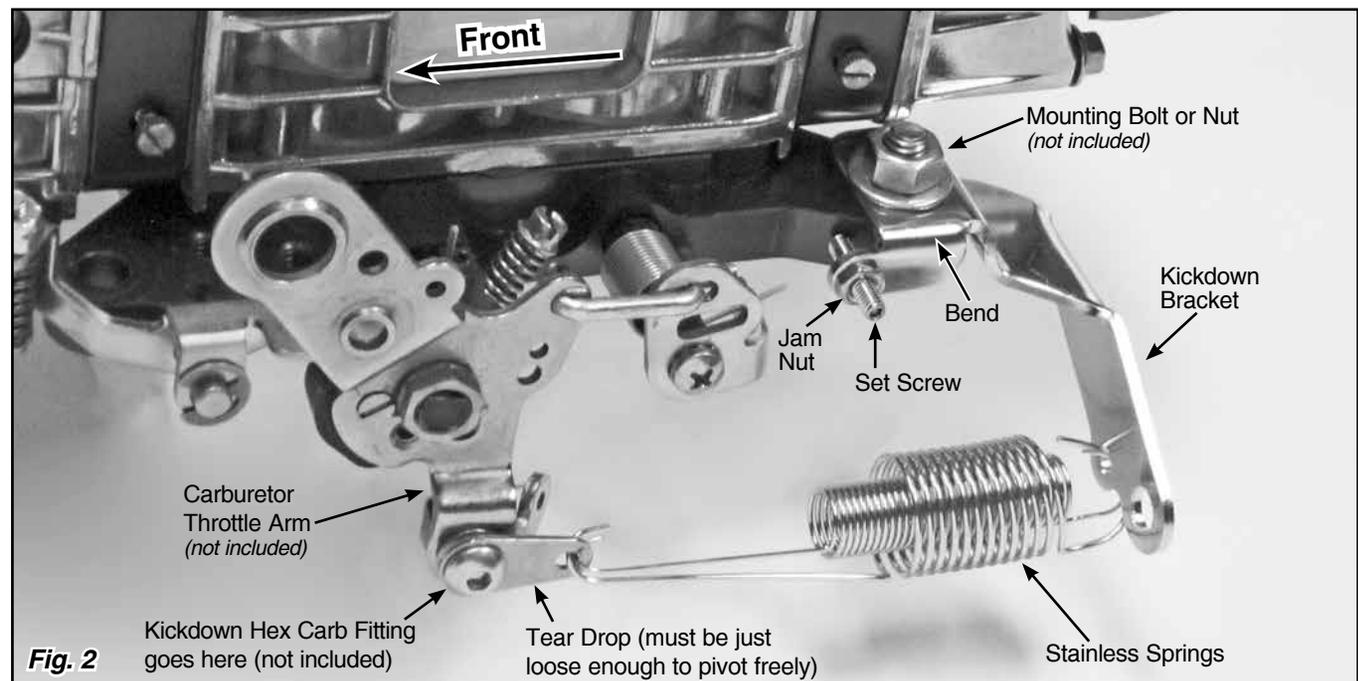

Fig. 2
**Step 1:** Remove the carburetor base mounting bolt or nut from the left rear corner of the carburetor, and position the Lokar Kickdown Bracket as shown in Fig. 2. Install the carburetor base mounting bolt or nut only finger-tight.
**Step 2:** Position the Lokar Kickdown Bracket so that the bend that is labeled in Fig. 2 is parallel to the carburetor base front to back.